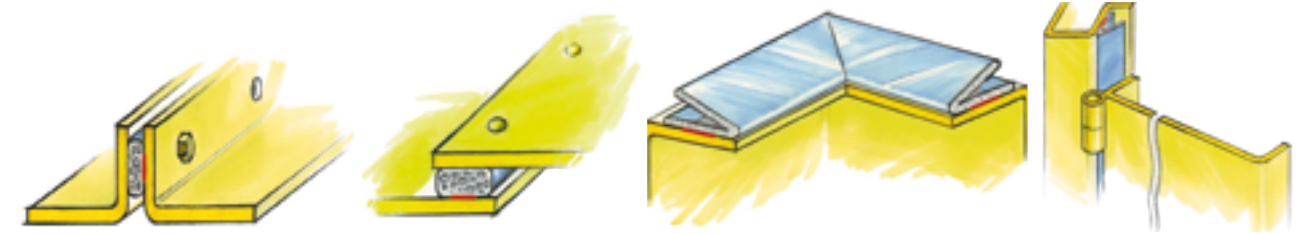

Figure 43: Solutions for small constructions
- 43 Medium size construction:** zinc-plated steel/metal: standard shield, neoprene foam with water seal, minimum width about 4mm and thickness 2-3mm. (Fig. 43)